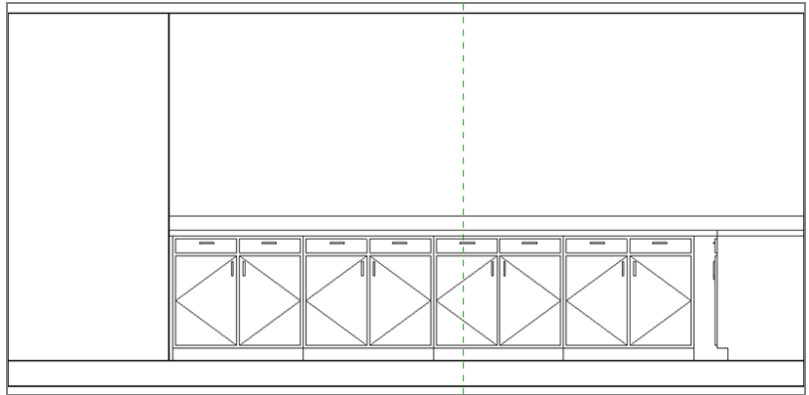

FIGURE 9.59: The base cabinet run
9. Copy the base cabinet to the right three times (four total cabinets), as shown in Figure 9.59.